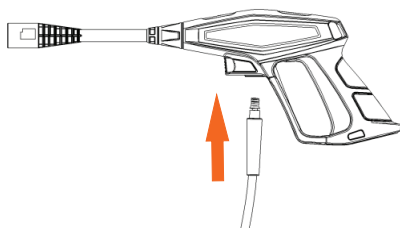

Figure 1
Product Parts (FIG 1)
1. Connect the end of the high pressure hose firmly into the trigger assembly. See figure 1 and 2.